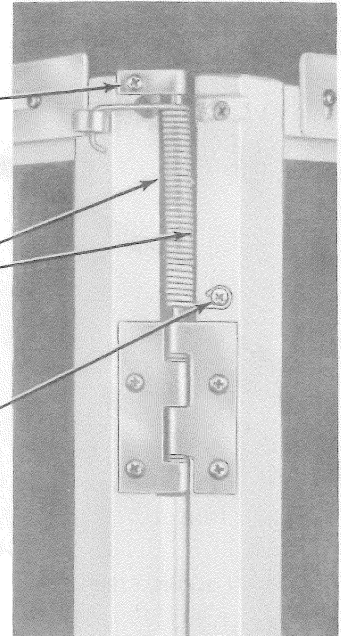
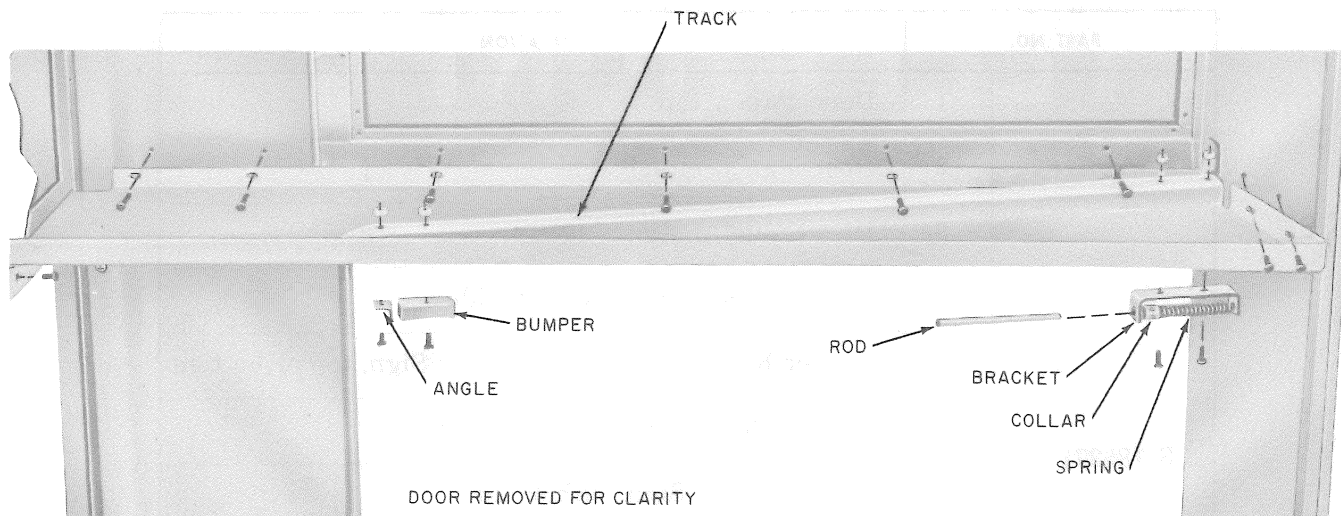

Fig. 22—Installation of Top Hinge Assembly
Fig. 23—Installation of Door Track
- (1) Check hinge wear. Clearance between hinge barrels should not exceed 1/16-inch; gauge by eye. Replace worn hinges.
- (2) Replace defective spring of the top hinge assembly only if the assembly is the latest type (Fig. 22). Replace all earlier type assemblies with the new top hinge assembly.
- (3) If door hinges squeak, lubricate at each joint between the barrels with KS-14774, L2G lubricating grease or equivalent; a KS-14796 oiler may be used.
4.17 When worn door track is interfering with operation of door, replace track, as shown in Fig. 23.